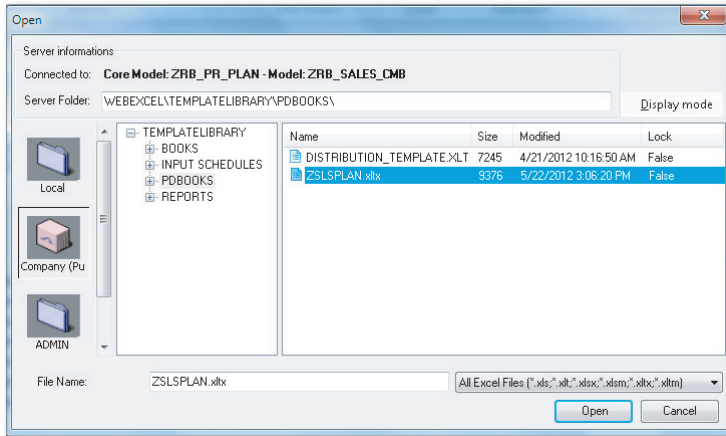

Figure 7.21 Creating a Distribution Template—Part F
5. Validate the distribution template you just created. Open the template using the OPEN SERVER ROOT FOLDER menu option under the OPEN menu, and select the template (Figure 7.21). To validate the distribution list, click on the VALIDATE menu option under the DISTRIBUTION menu. When the distribution template is validated, the system checks to see whether all mandatory fields are entered.